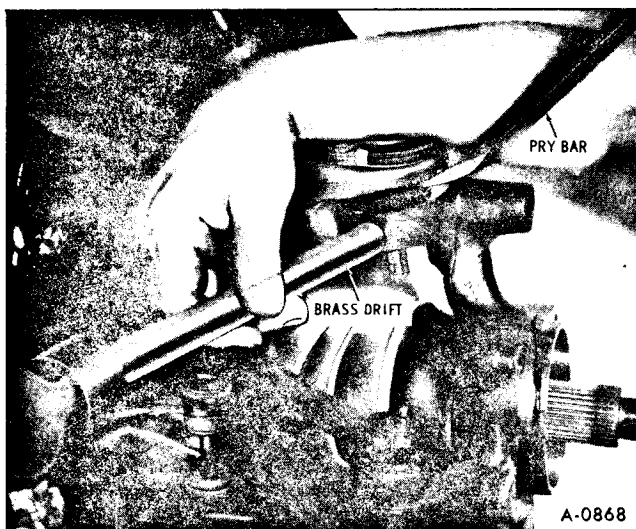

Figure 5—Removing Upper Ball Joint
8. Using hammer and brass drift, drive on knuckle until upper ball joint stud is free. (figure 5)